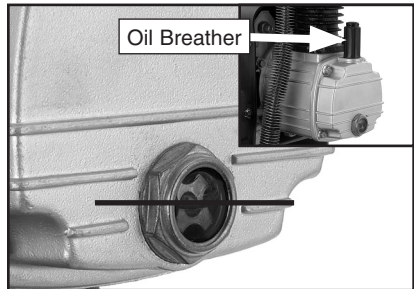

Figure 3. Proper oil level.
3. Add compressor oil, or ISO 100/SAE 30W non-detergent oil, to the crankcase. Remove the oil breather (inset in **Figure 3**) on top of the crankcase and add oil into the hole. The oil level should be in the center of the sight glass as shown in **Figure 3**.